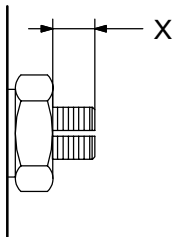

Fig. 5-3
4. **Mechanical pressure control valves:** Measure insertion depth of setting screw (Fig. 5-3: dimension X) and make a note. This ensures that insertion depth can be reproduced. Then close pressure control valve.